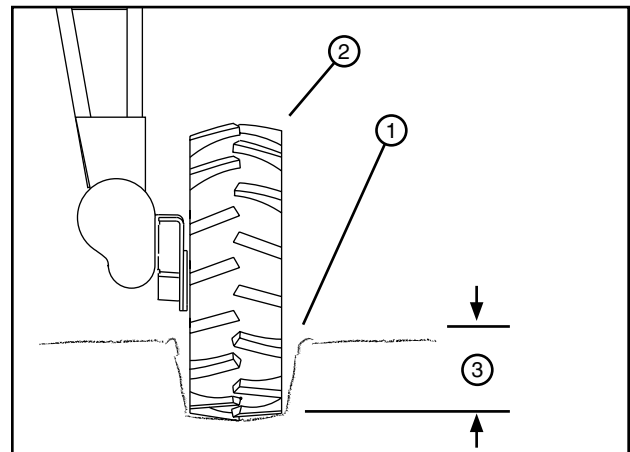

Figure 37-1 1. Wheel track 2. Linear drive unit 3. Maximum Depth
- » Regular drive units must not exceed 4 in (100 mm). See Figure 37-1.
- » Single span swing around drive unit must not exceed 2 in (50 mm). See Figure 37-1.
- » Do not allow wheel tracks at the cart. See Figure 37-1.